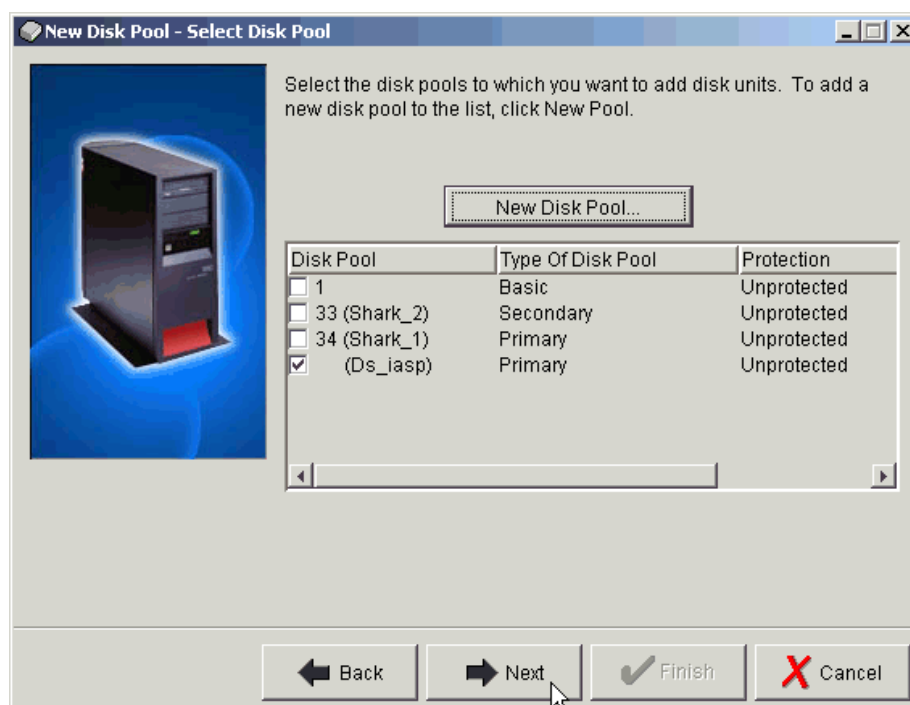

Figure 17-11 New Disk Pool - Select Disk Pool
8. A confirmation window, such as the one shown in Figure 17-11, opens and summarizes the disk pool configuration. Select **Next** to continue.